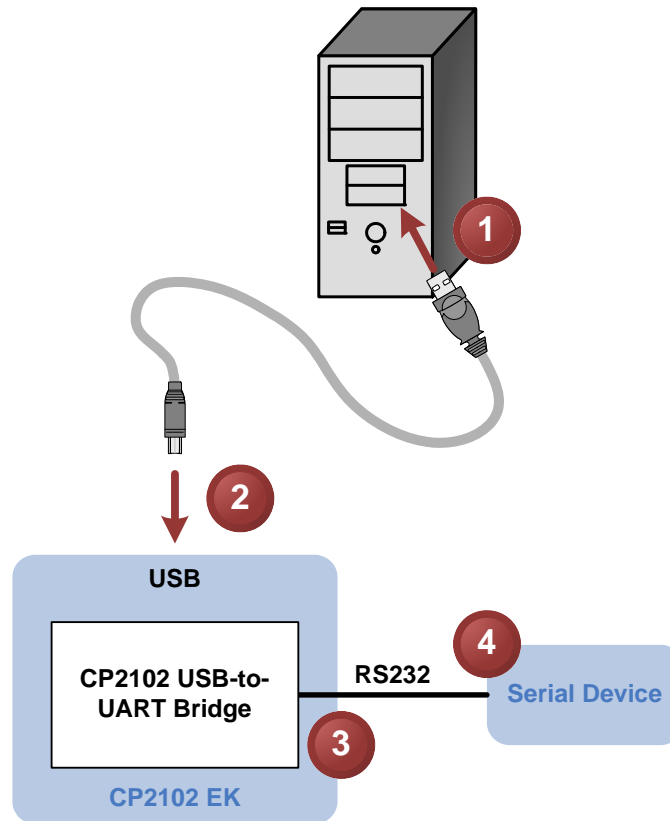
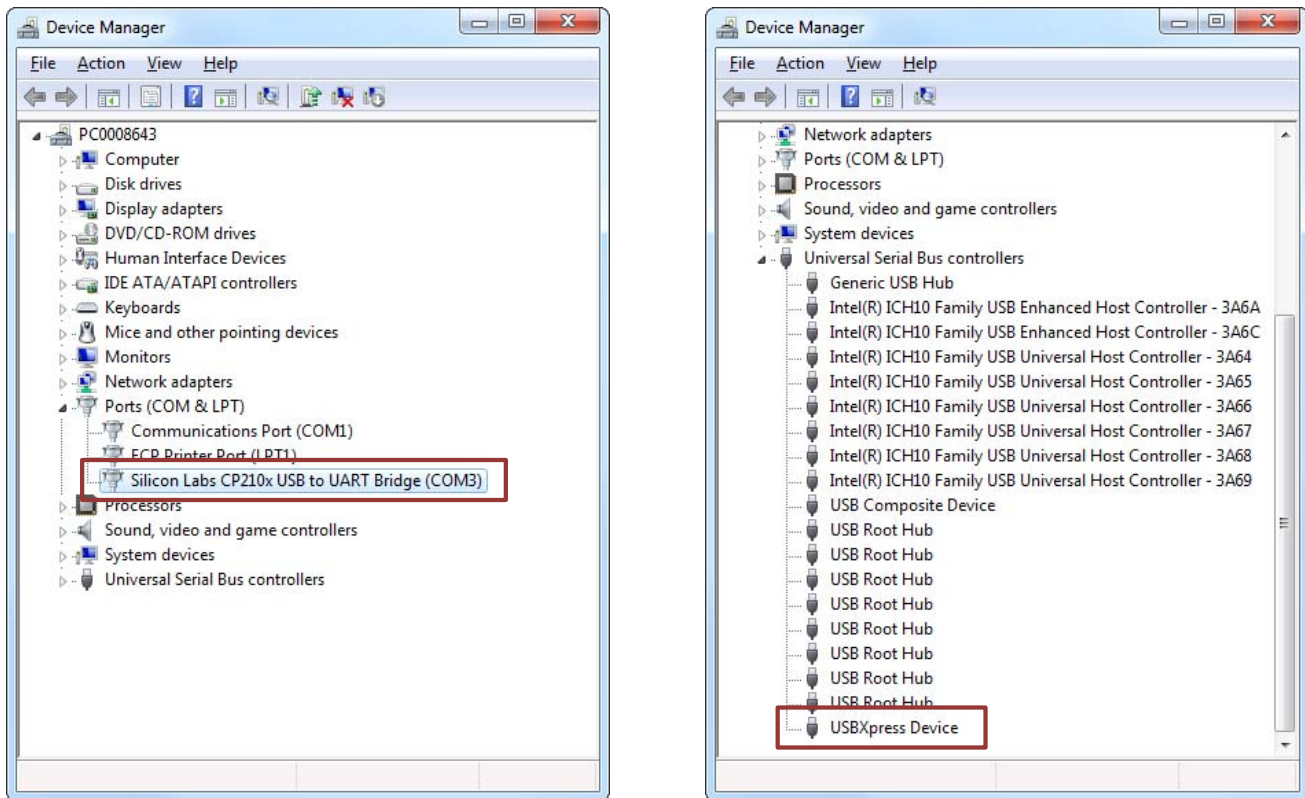

Figure 1. Hardware Setup
Figure 2. CP2102 in Device Manager
The evaluation board is connected to a PC as shown in Figure 1.
If the Virtual COM Port drivers are used, the CP2102 will appear as a COM port in the Device Manager, as shown in Figure 2. The CP2102 will always use the lowest available COM port for operation. For instance, if COM ports 1 and 2 are in use by other peripherals and applications, the CP2102 will use COM 3.
If the USBXpress drivers are used, the CP2102 will appear as a USB USBXpress device as shown in Figure 2. Examples for how to communicate with the device using the USBXpress interface are included in AN169 on the [www.silabs.com/interface-appnotes](http://www.silabs.com/interface-appnotes) page.
- Updated Figure 1 and Figure 2.